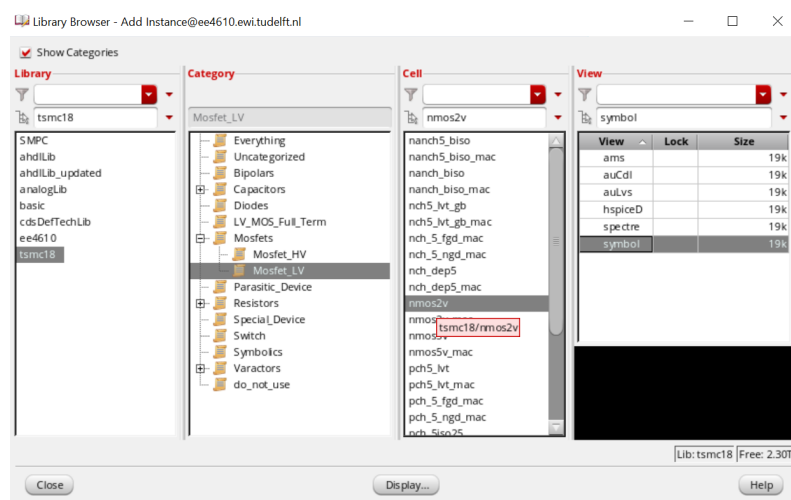
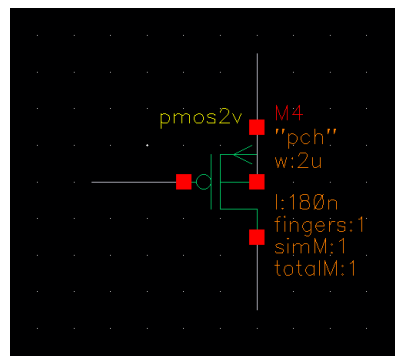

Figure 5: Add instance
Figure 6: Schematic example
- Select the instance from Fig. 5. Press "Enter" and the PMOS (Fig. 6) is displayed in your schematic.